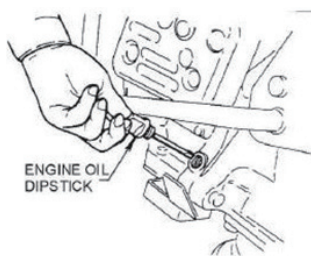

Fig 4
3. Check the engine oil level [Fig 4] and if the engine oil level is low, it should be refilled. Use the proper motor oil as suggested in the Table below.